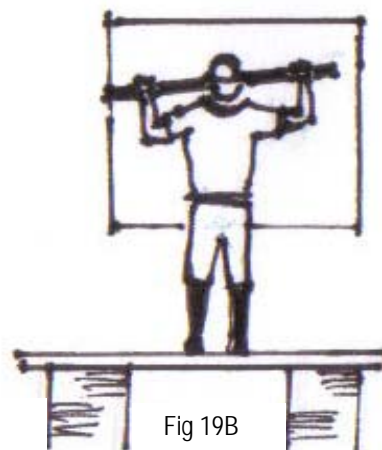

Fig 19B
- Ensured a true surface by using a wooden straightedge reaching across the gauges, with small upward and sideways movements at a time (See fig. 19B)